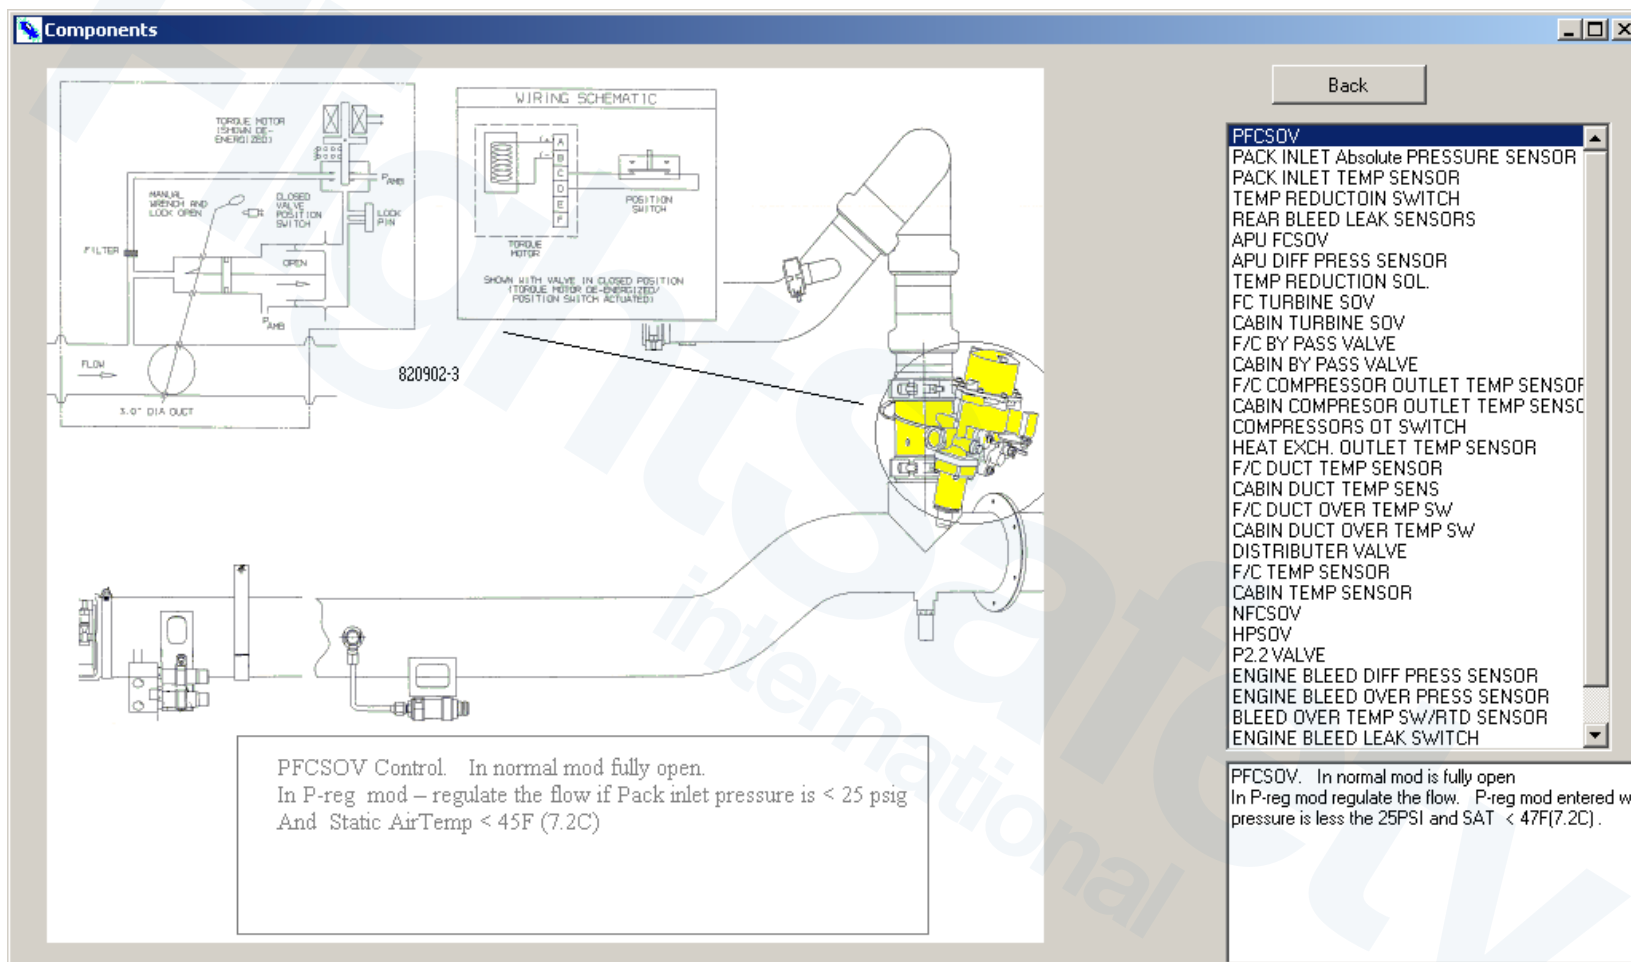

Figure 21-93. Components Tab Screen
- Figure 21-93. Components Tab Screen.